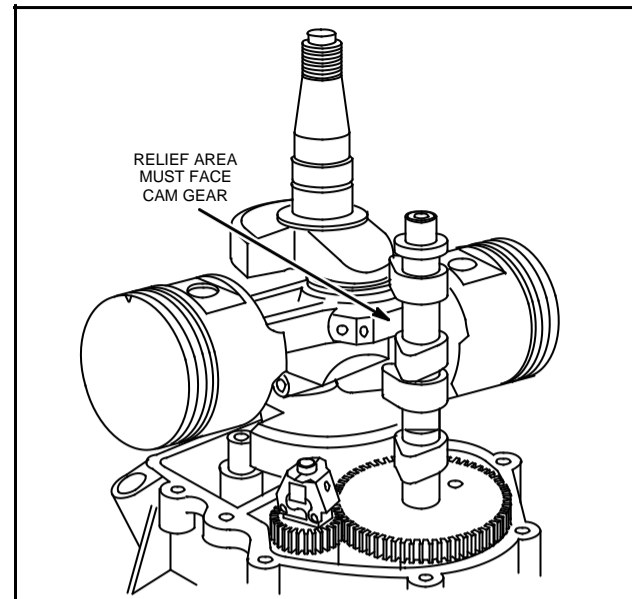

Fig. 17 – Installing Connecting Rods – Model 462770
**NOTE: ENGINE MODELS 462770:** With piston and connecting rod assemblies installed, make sure the machined relief areas on the connecting rod and cap are together and facing cam gear, Fig. 17.